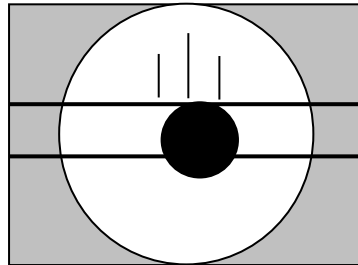

Figure 14 Move the upper thin line to the upper end of the indentation
- Rotate the thin wire to position the roller so that it just catches the upper end of the indentation and is tangent to the indentation. This action moves two lines at the same time. See Figure 14.